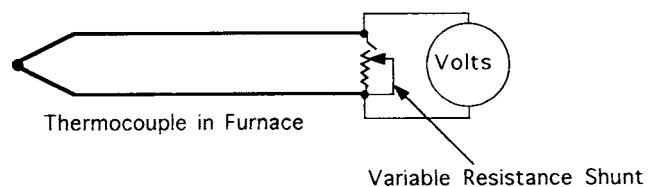

FIG. 1 An Alternative Method to Measure Loop Resistance
7.1.3 An alternative method to determine the loop resistance of a thermocouple at elevated temperatures is to shunt the thermocouple at the connector prongs with a switchable variable resistor. Measure the open-switch thermocouple Seebeck voltage between the connector prongs with a high impedance voltmeter capable of measuring in the microvolt range (see Fig. 1). The measuring junction must be at constant temperature and the connector prongs must remain at the same terminal temperature during this test. Close the switch and adjust the resistance of the variable resistor until the closed-switch measured voltage is  $\frac{1}{2}$  that of the open-switch Seebeck voltage (at which time the variable resistor has the same resistance as the thermocouple loop). The variable resistor is then removed from the circuit and its resistance measured directly with an ohmmeter. This method avoids the complication of the Seebeck voltage that is referred to in 7.1.